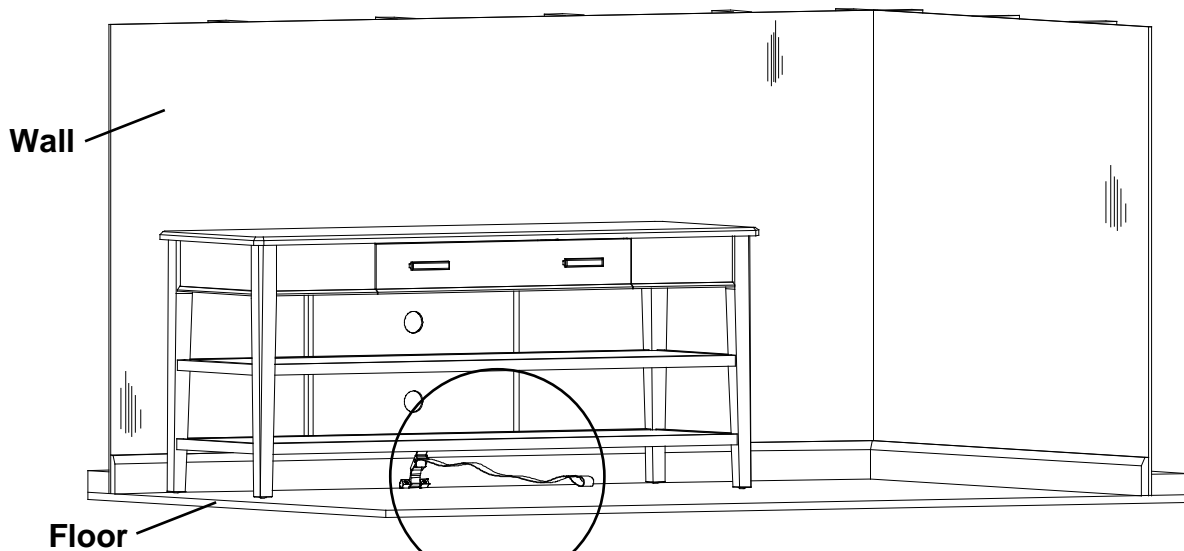

Fig. 11
11. Move the item back into position against the wall and reach underneath the piece of furniture to grasp the loop in the free end of the strap. Pull the free end of the strap until portion between the Cam Buckle (A) and the back apron of the item is tight. See Figures 11 and 11a. If you need to move the piece of furniture reach beneath and locate the buckle which connects the two sections of the strap and depress the release lever, then pull on the section of strap that is between the buckle and the back apron of the furniture until there is enough slack to allow you to pull the item away from the wall.